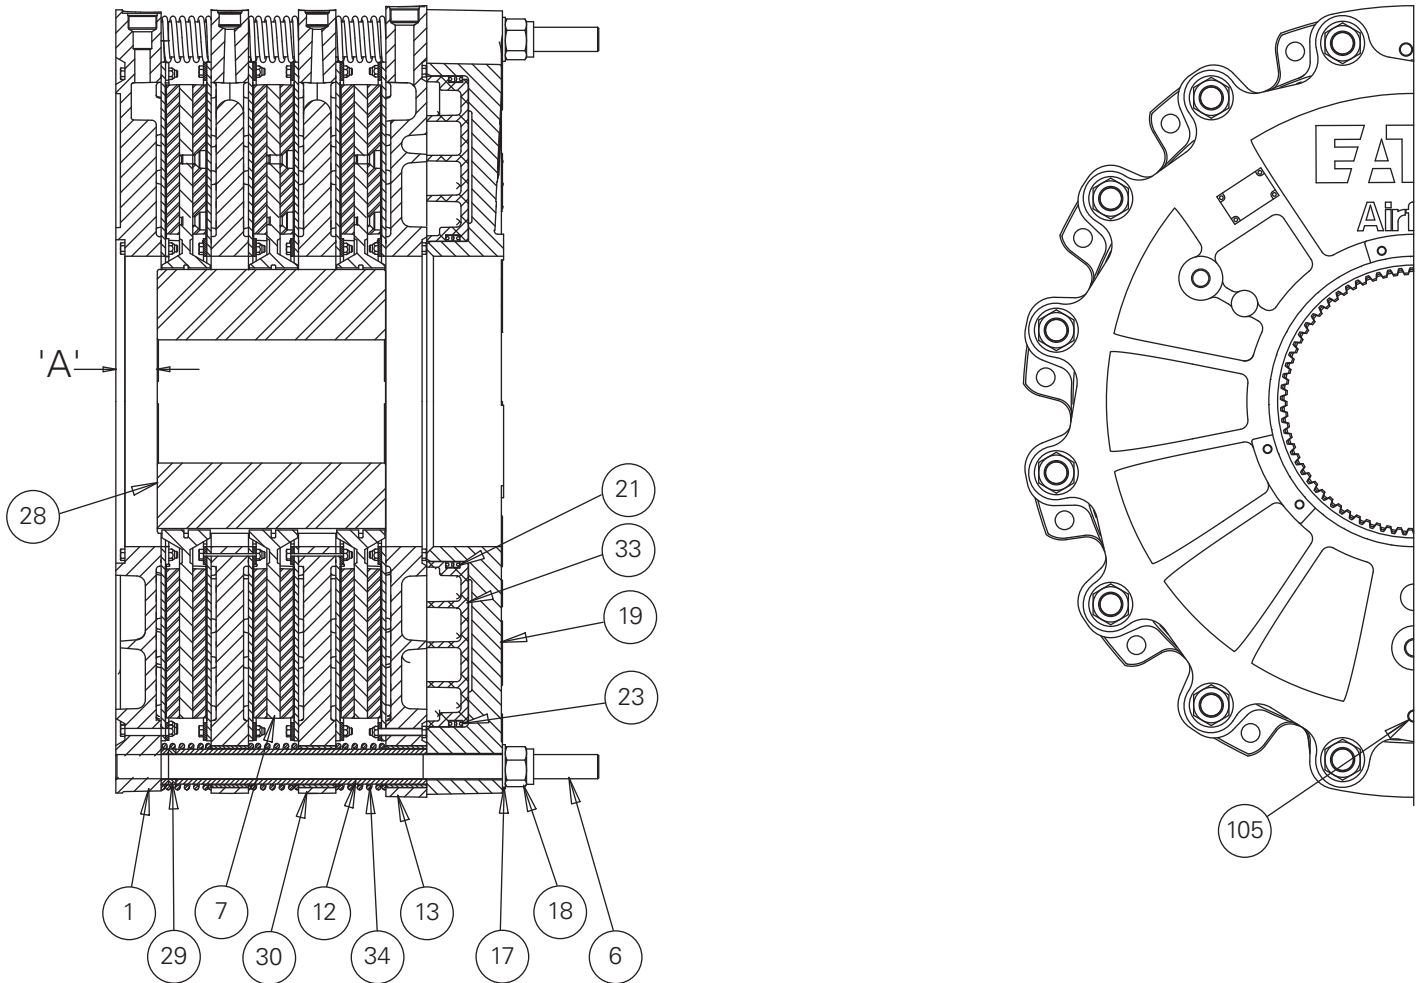

Figure 1
1.2.1 Referring to Figure 1, the gear (28) is mounted on the shaft which is to be stopped and the WCB2 tensioner/brake assembly assembly is attached to the machine frame or a reaction bracket.
"A" dimension on Figure 1 - inches (mm)
2.1.4 Refer to Table 3 for the setup dimension between the WCB2 tensioner/brake assembly's mounting surface and the end of the gear (dimension "A" on Figure 1). Gears should be positioned to ensure that when the WCB2 tensioner/brake assembly is mounted the friction disc assembly splines will not overhang the end of the gear when components are in both new and worn conditions. The gear is typically bored and keyed for a resulting Class FN2S interference fit for inch shafting and ISO System S7h6 for metric shafting. Contact Airflex Application Engineering for specific recommendations.
2.2.4 Heat the gear uniformly to 250°F (121°C) to expand the bore and ease assembly. Press the gear onto the shaft, making sure that the dimension between the gear and the WCB2 tensioner/brake assembly's mounting surface ("A") is maintained. See Figure 1 and Table 3. Allow the gear to cool.